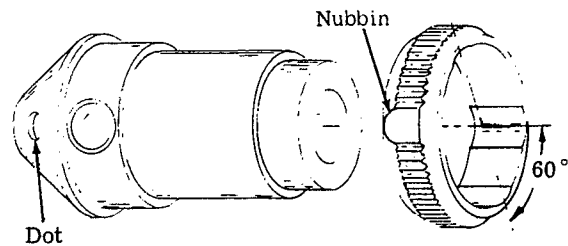

FIG. 15
Assemble "O" ring (70) and 1/8" steel ball (73) in accessory bushing (69) with lubricant to hold in place. Lubricate and assemble 5/32" steel ball (74) in larger opening. Referring to Fig. 15 align nubbin at smooth spot on lock ring (71) with dot on accessory bushing (69). Nubbin should be on side of lock ring toward bushing. Slip ring on bushing. Orient dot on bushing with any corner of hex. on cylinder sleeve (60) and press bushing into sleeve up to bushing shoulder.